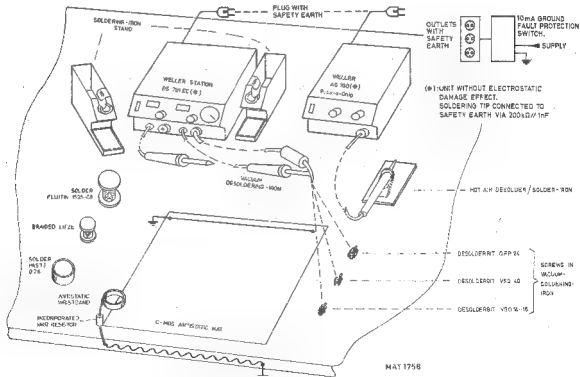

Figure 12.1 Arrangement of working area for S.M.D. exchange.
- how to arrange the S.M.D.-workshop. (see figure 12.1).
- Protection against E.S.D.: since the working area must be suitable for repair of MOS-devices, some precautions must be taken (see figure 12.1)
- For an optimal supply of heat a working area must be used that does not lead away the heat: the antistatic mat in figure 12.1 meets this requirement.